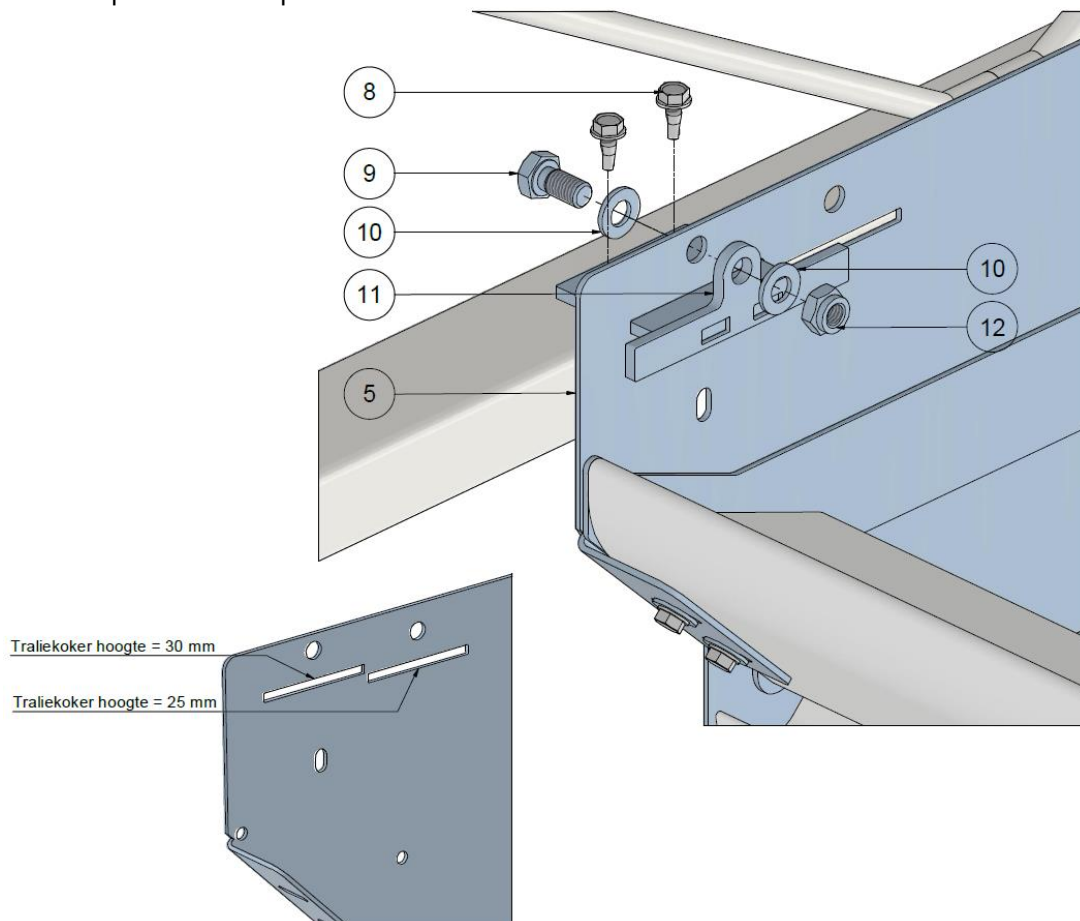

Figure 7 Mounting the Slide-in brackets into the end plate
- Fit two cover plates, lying onto each other (14), in the profile;
- Mount the second end plate with six 4,8x38 metal screws (6). Don't screw the metal screws fully fixed so there is some movement into the Airmix housing left.
- Place two 4,8x25 metal screws with tapping point (8) with corresponding fender washers m5 (7) into the second end plate. Don't screw the metal screws fully fixed too so there is space left to fine tune the end plate against the lattice (1).
- Slide the Airmix housing (23) between the profiles up to the end plate; attach it with six M8x16 hexagonal bolts (9) and six M8 fender washers (13);
- Put the cover plates in position and attach to each other with a 4.8x25 metal screw with tapping point (8);
- Lift the whole unit to the lattice and slide four Slide-in brackets (11) through the top of both end plates so these Slide-in brackets rest on the lattice.
- o Make sure the correct right slot is used for the Slide-in brackets. This is important for the height related to the screen. See Figure 7.
- Make sure the end plate (5) is fully against the lattice. If so, connect the Slide-in brackets to the end plate using one m8x16 stainless steel bolt (9), two washers m8 (10) and one self-locking nut m8 (12).
- Connect the Slide-in brackets (11) to the lattice (1) with two metal screws with tapping point 4,8x25 (8).
- Put the profile connector (17) in place, by turning it in the groove of the profiles, under the overlap of the cover plates.